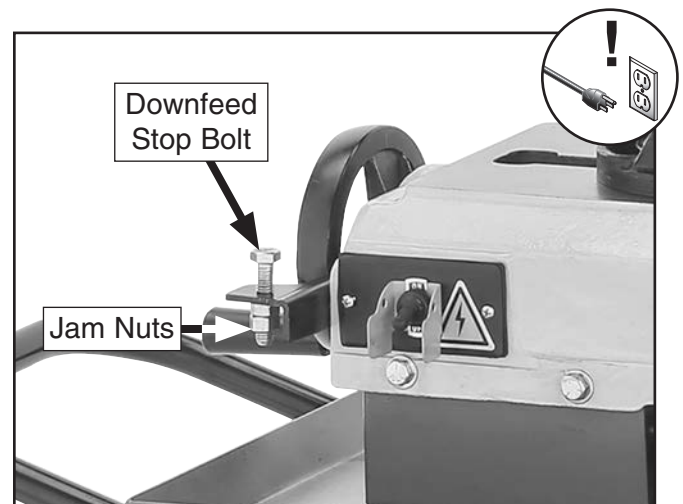

Figure 74. Location of downfeed stop bolt.
- Raise headstock until blade is just below vise table surface and adjust downfeed stop bolt and jam nuts to secure headstock position (see **Figure 74**). Adjustment is complete.
- Adjust downfeed stop bolt until blade is just below vise table, but not contacting it (see **Figure 74**). Tighten jam nuts to secure.